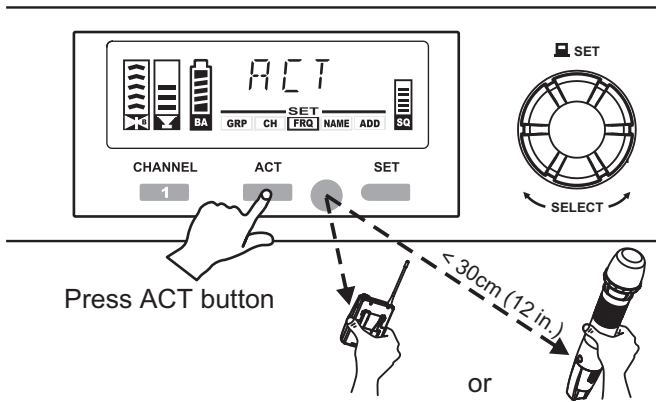

Fig. 18
- (1) To Lock: Press and hold knob for 3 seconds to lock display panel until   icon appears.
- (2) To Unlock: Press and hold knob for 3 seconds to lock display panel until  icon disappears.
- (3) Do not press other buttons during setting.
(H) ACT Sync setting, Fig. 18:
- (1) Press ACT button, the ACT appears on the VFD screen and ACT Sync can be operated.
- (2) Ensure transmitter is powered-on. During the word ACT blinking on the receiver LCD screen, align the ACT IR port of both transmitter and receiver within 30cm. The frequency will sync automatically, Fig. 18.
- (3) Once sync is completed and successfully, the word ACT disappeared and the GRP parameters & full grid of RF meter  are displayed on the VFD screen. The LCD on the transmitter also displayed the same group and channel of receiver simultaneously.
- (4) After press ACT button, if the transmitter was not synchronized within 10 seconds, the word A--LOSE appears on the VFD screen. Repeat the sync process by pressing the ACT button again.